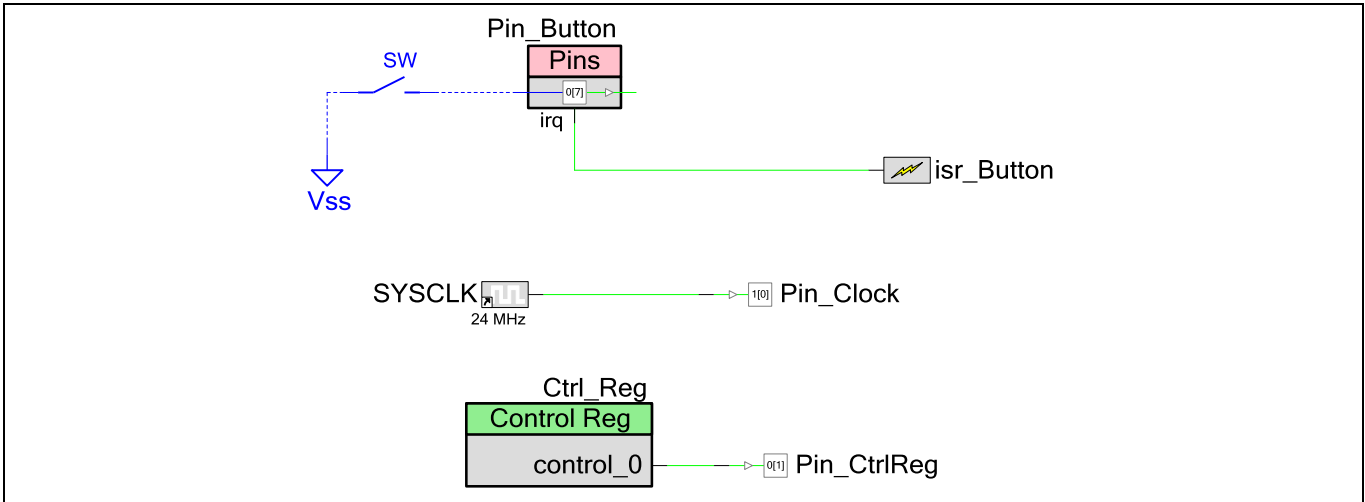

Figure 80 Avoiding Glitch While Exiting Deep-Sleep
2. Configure the Components per the following table. Connect the Components as **Figure 80** shows.